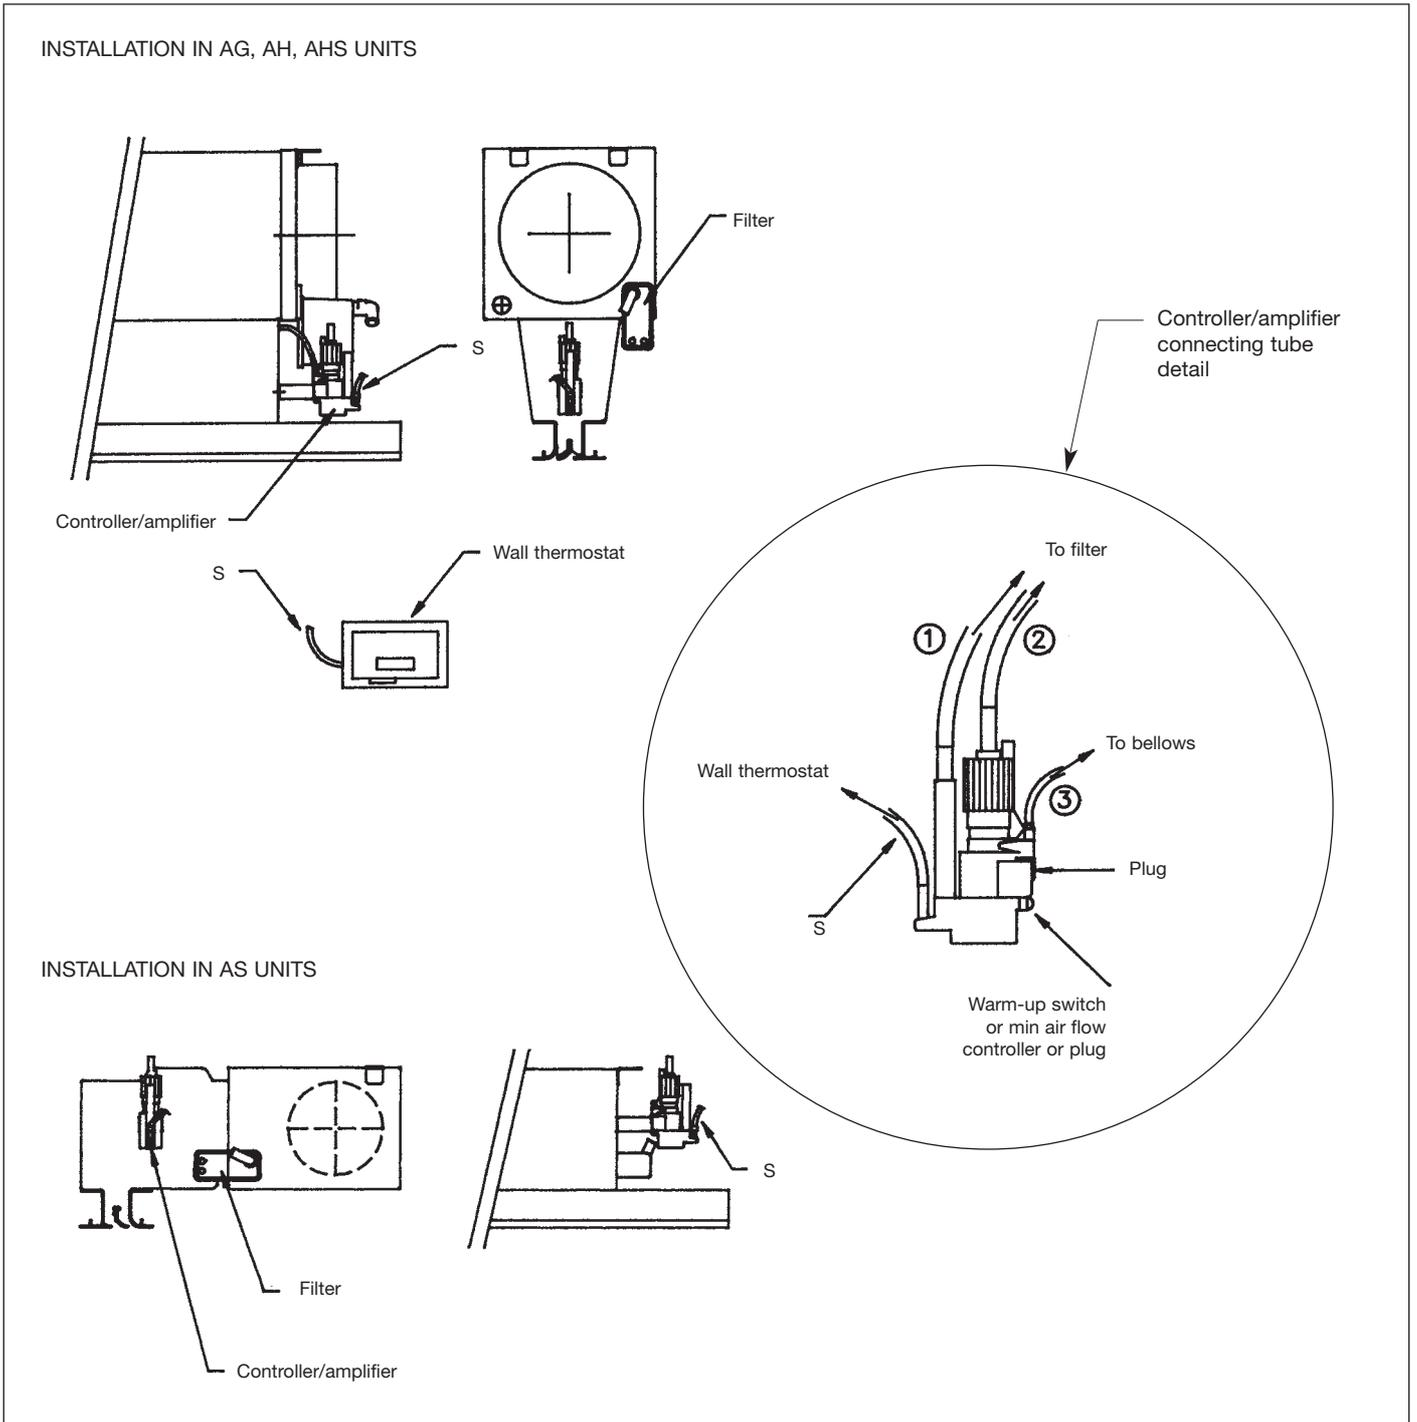

Fig. 2.
- Drill a 3 mm hole in the side of the plenum as shown by Fig 2. Install the controller mounting using mastic to prevent leakage and hissing.